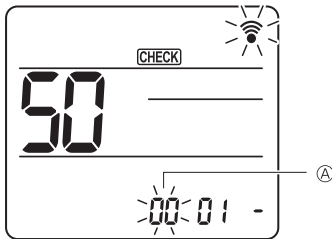

Fig. 11-2
Press the **↓** button to set unit number ①. (Fig. 11-2)